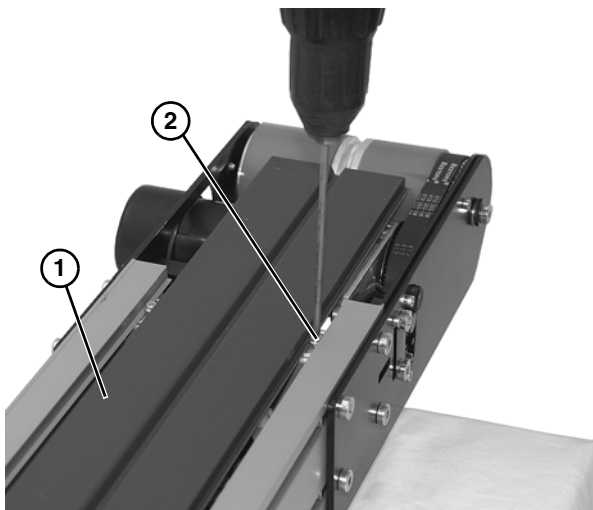

Figure 66
2. Remove wear plate (Figure 66, item 1) by removing plate fastening screws (Figure 66, item 2) on each side and end of conveyor